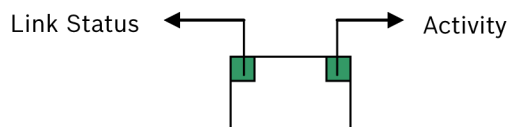

Fig. 4.3 Ethernet Port Indicators
- **Audible Alarm:** An audible alarm is present on the subsystem controller board and will be triggered if any of a number of threatening events occurred. These events usually jeopardize the functional and operational integrity of the controller board and must be heeded at all times. Events such as a breaching of the temperature threshold will trigger the alarm and if an onsite subsystem manager is present, the manager should, using either the LCD panel or the PC hyper-terminal, determine the cause of the alarm and take the appropriate corrective measures. (See *Figure 4.3*)
The subsystem comes with a RS-232C audio jack serial port that can be used to assign a permanent IP to the subsystems. After a permanent IP address has been assigned, an Ethernet cable can be used to connect the RJ-45 Ethernet port to a network hub or router. This enables you to manage your subsystem locally or remotely over TCP/IP. See *Figure 4.3* for the locations of the two LED indicators on Ethernet port. Refer to *Table 4.4* for the LED definitions.